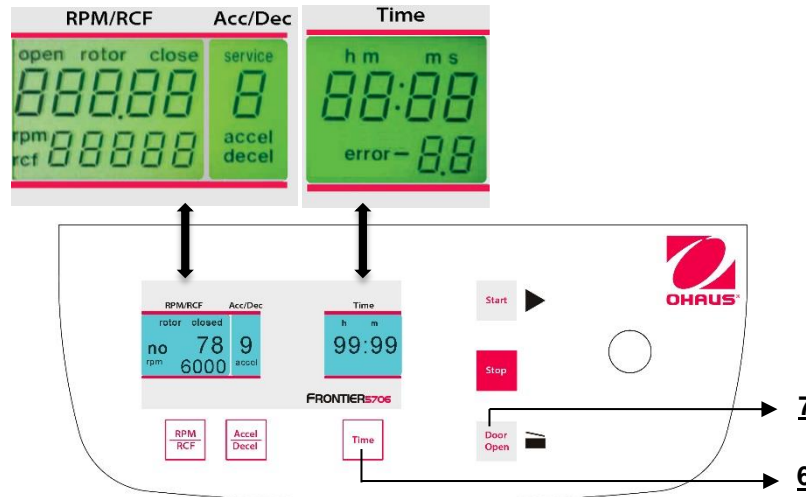

Figure. 26
While the centrifuge is turned off, press simultaneously the keys "Time"(6) and "Door Open" (7) and turn on the main switch of the centrifuge. Now release both keys and as a result a display test is executed for approx. 5 seconds. All indicators will appear at the same time (See figure 26).